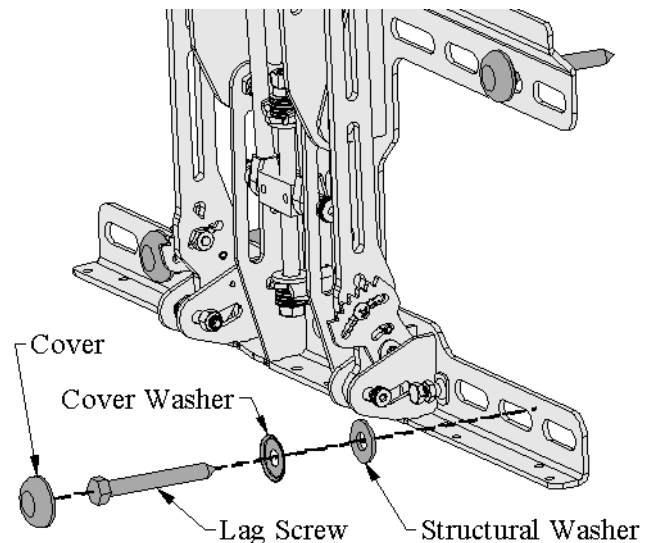

Figure 7, Lag Bolt and Washer Order
5. Figure 7 shows the correct order to put on the lag screw.